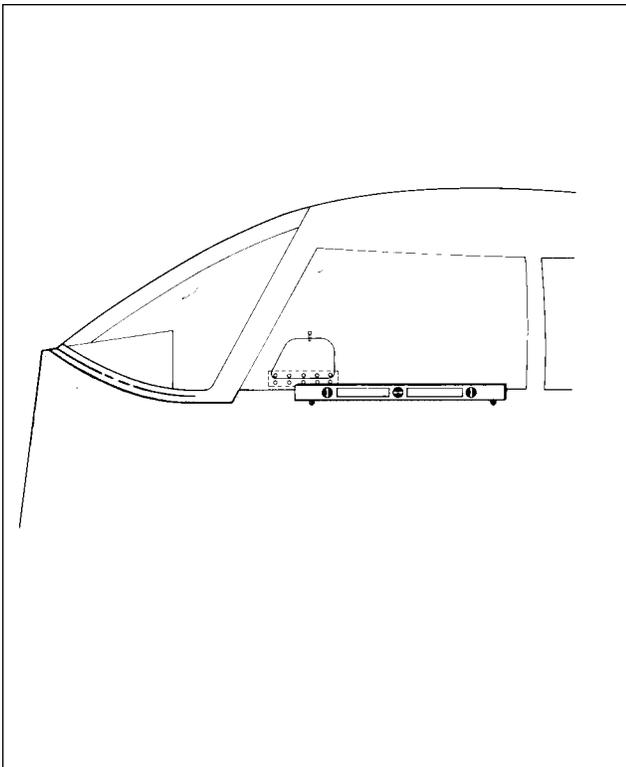

Figure 8-2. Leveling Longitudinally
1. To longitudinally level the airplane, partially withdraw the two leveling screws located immediately below the left front side window. (Refer to Figure 8-2.) Place a level on these screws heads and adjust the jacks until the level is centered. Should the airplane be either on scales or on the floor, first block the main gear oleos to full extension; then deflate the nose wheel until the proper position is reached.